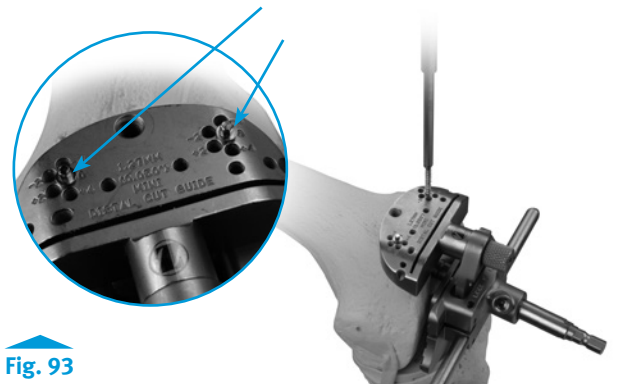

Fig. 93
- Ensure the guides contacting the distal femur and insert two 33mm Hex-head Screws through the holes marked “0” on the top of the cutting guide (Fig. 93).